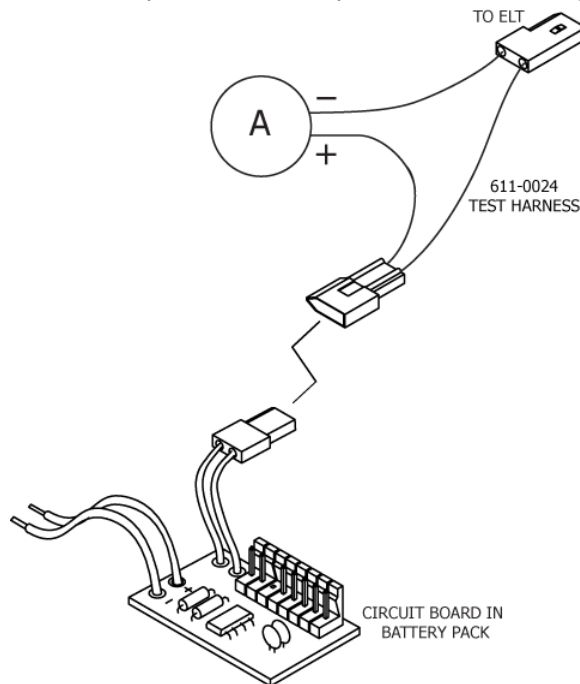

Figure 9 Current Draw Test Setup
- 4) Install test harness 611-0024, or equivalent, in the power circuit. See Figure 9.